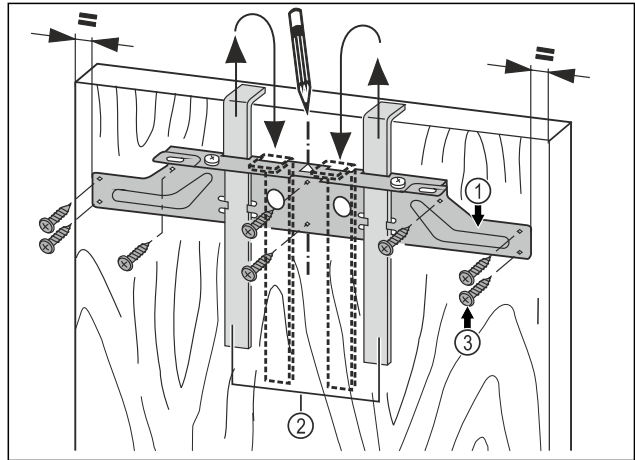

Fig. 15
- Hang the fastening bar Fig. 15 (1) with the mounting aids on the inside of the unit door Fig. 15 (2).
- Align the fastening bar Fig. 15 (1) in the centre of the door.
- Tighten the mounting bar Fig. 15 (1) with at least 6 screws Fig. 15 (3).
- Screw the mounting bar Fig. 15 (1) to the edge with 4 screws Fig. 15 (3).
- Pull the assembly devices Fig. 15 (2) upwards and push them, at an angle, into the receiving openings.